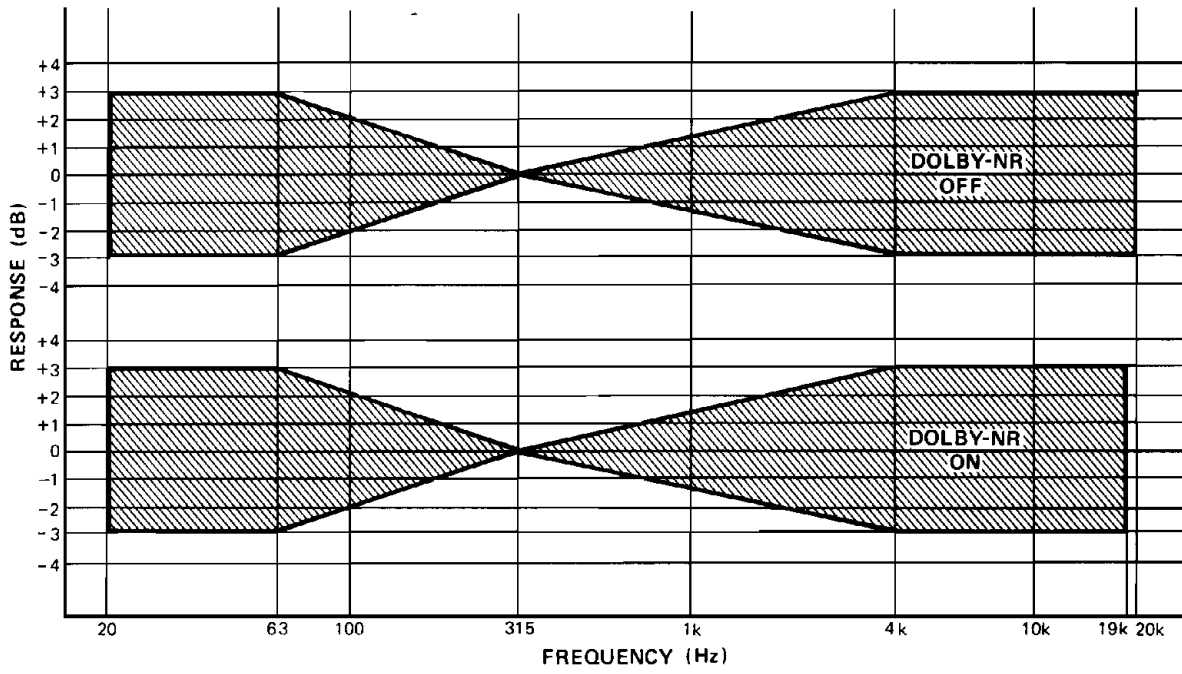

Fig. 3 – Metal
6. Play back the metal tape recorded above, note the frequency response obtained on the V.T.V.M. 2 and compare to Fig. 3.
7. If the above frequency response is not within the shaded DOLBY-NR OFF area on Fig. 3, adjust VR309 (left), VR310 (right), L301 (left peaking) and L302 (right peaking) slightly. Repeat steps 5 and 6 until playback frequency response on the V.T.V.M. 2 is adjusted within the DOLBY-NR OFF range as shown in Fig. 3.
8. Set Dolby NR switch to ON position and check if frequency response is within range of DOLBY-NR ON section of Fig. 3, if not repeat DOLBY-NR OFF procedures.